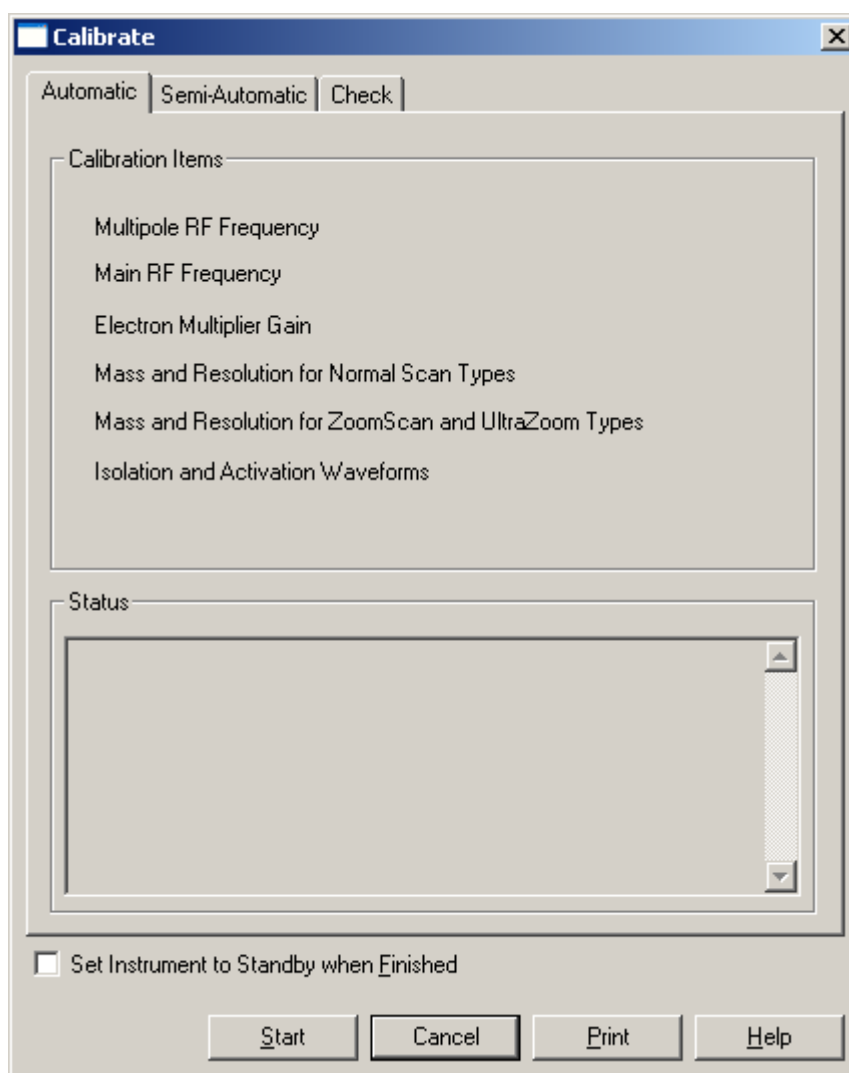

Figure 3-13. Calibrate dialog box, showing the Automatic calibration page
2. If necessary, click on the Automatic tab to display the Automatic calibration page. See Figure 3-13.